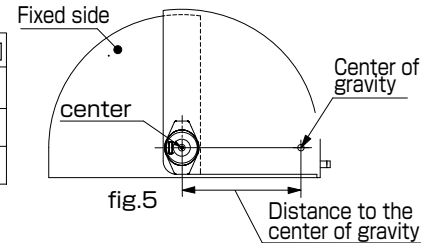

fig.5
- ・扉の形状や可動角度によってモーメントが異なりますので、下記の計算式に従ってモーメントを確認後に機種を選択してください(図5)。
- There are two directions of rotation that the damper operates: clockwise (R) and counterclockwise (L).
- The torque is different depending on the form and movable angle of doors. Select a model after making sure the torque according to the following formula (Fig 5). Measure the distance between the rotation center and the gravity center when the gravity center becomes level (or closest to level) with the rotation center (the maximum torque).